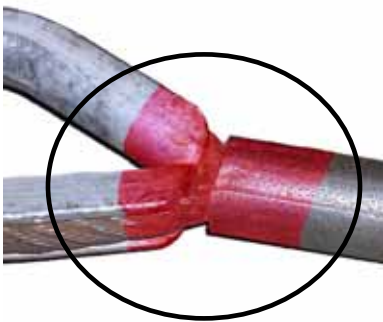

Figure 1. Painted swage.
- b. Inspect swage and wire rope eyes for slippage. Swage termination shall be flush with the swage collar and extend no more than 0.125 inch from the swage collar. Slippage is indicated by the exposed or exposed and unpainted wire rope between the thimble and swage. See Figure 1. If slippage has occurred, dispose of the longline. See Section HG, Salvage.